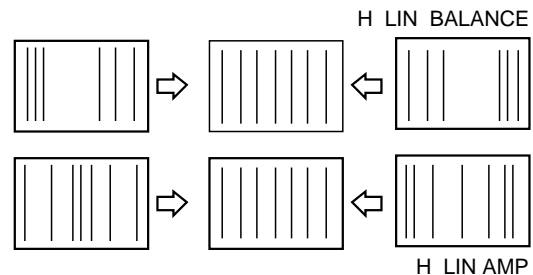

Fig. 1-10
9. Adjust the H SIZE, H LIN BALANCE, and H PIN AMP data as shown in Fig. 1-10.